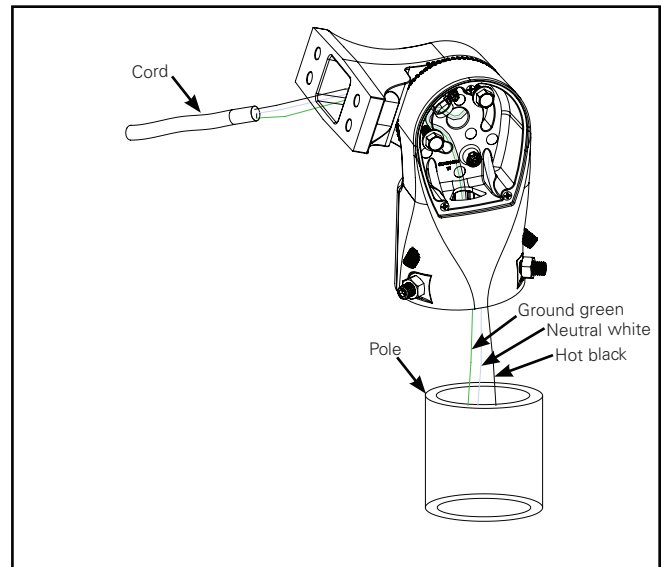

Figure 5.
1. Loosen (3) #8 screws to remove the access cover from the slip fitter arm. Set aside for installation.
3. Pull the supply wire leads through the top of pole or tenon topper. Support fixture and lower onto pole while feeding supply wires through the slot in the slip fitter (Fig 5).